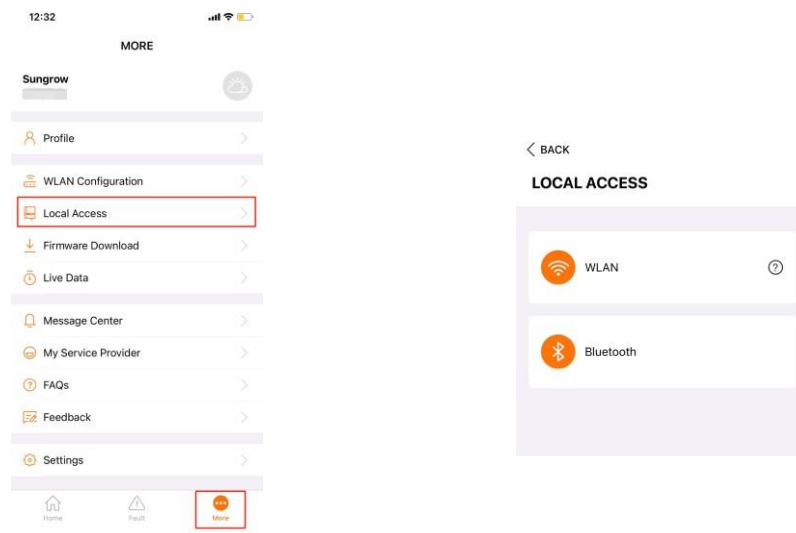

Figure 4 Local Access
step 2 Change the Wi-Fi network on your mobile phone from your home network to the Sungrow inverter network (network starting with SG). Open iSolarCloud app again and click '**Local Access**' → select **WLAN** access → enter the '**user**' for the account and "**pw1111**" for the password →click '**Login**'. (Figure 4).